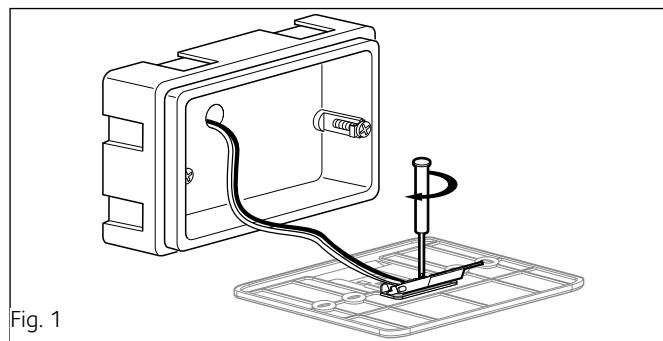

Fig. 1
- before connecting the wires to the base of the system interface, slide the tab protecting the connector and lift it up (fig. 1);